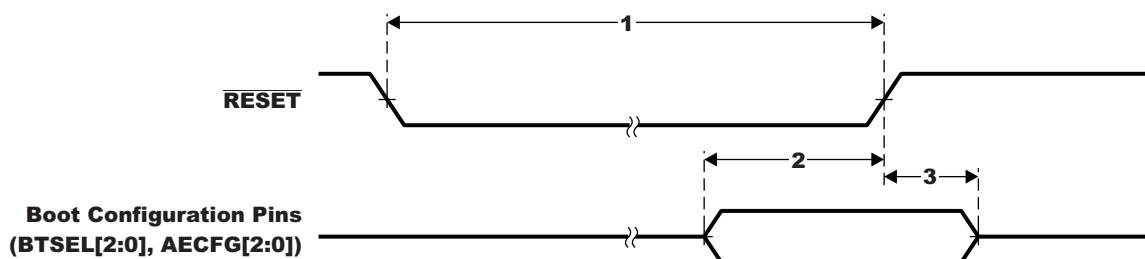

Figure 6-4. Reset Timing
Table 6-2. Timing Requirements for Reset ^{(1) (2) (3)} (see Figure 6-4)